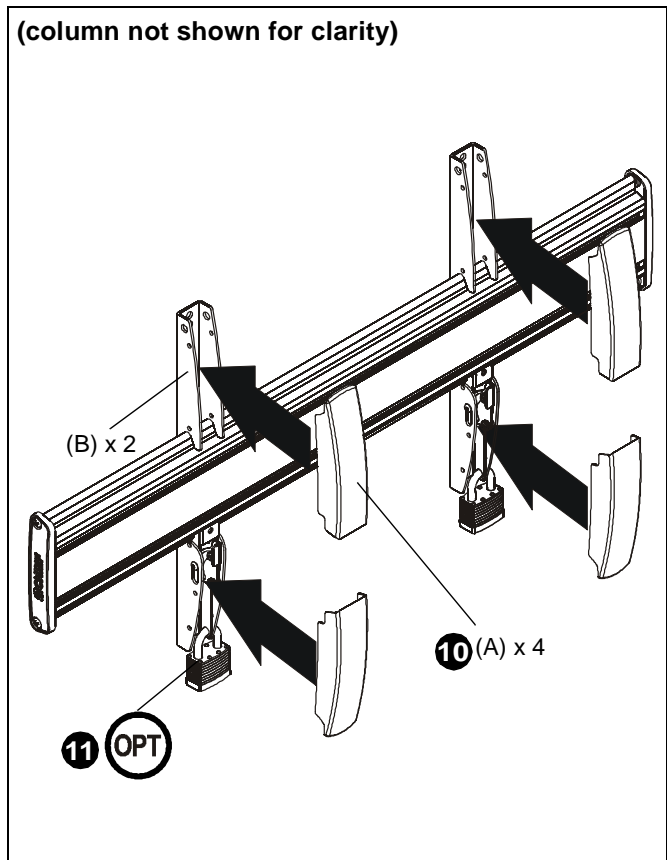

Figure 10
10. Snap four upright covers (A) onto uprights. (See Figure 10)
11. (Optional) Use padlocks (not provided) to secure uprights to head assembly. (See Figure 10)